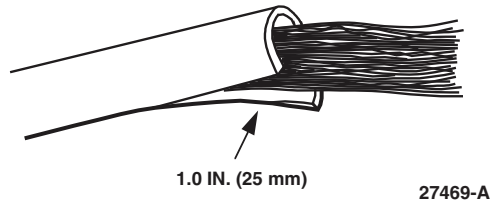

Figure A-3. Cutting Cable Sheath
3. Make a one-inch cut in the cable sheath opposite the point at which the connector will be attached as shown in Figure A-3.